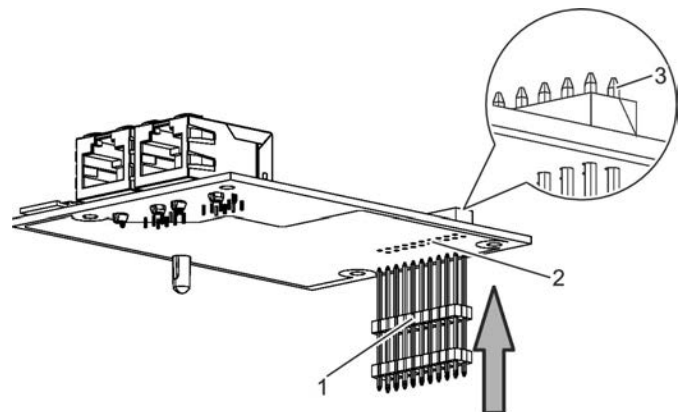

Fig. 50: Fitting the pin header
1. ▶ Take the pin header (Fig. 50/1) and push it with the longer ends from below through the EM-IP expansion module (Fig. 50/2).
Push the pin header just far enough so that the pins protrude slightly on the upper side (Fig. 50/3).